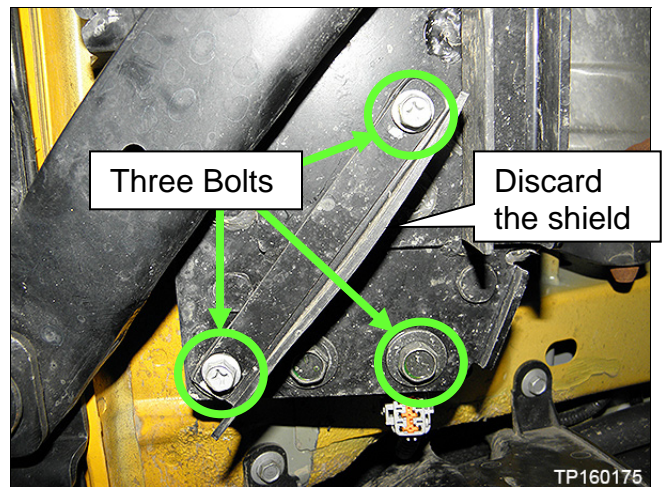

Figure 4
4. Remove the three bolts shown in Figure 4 from the auto step.